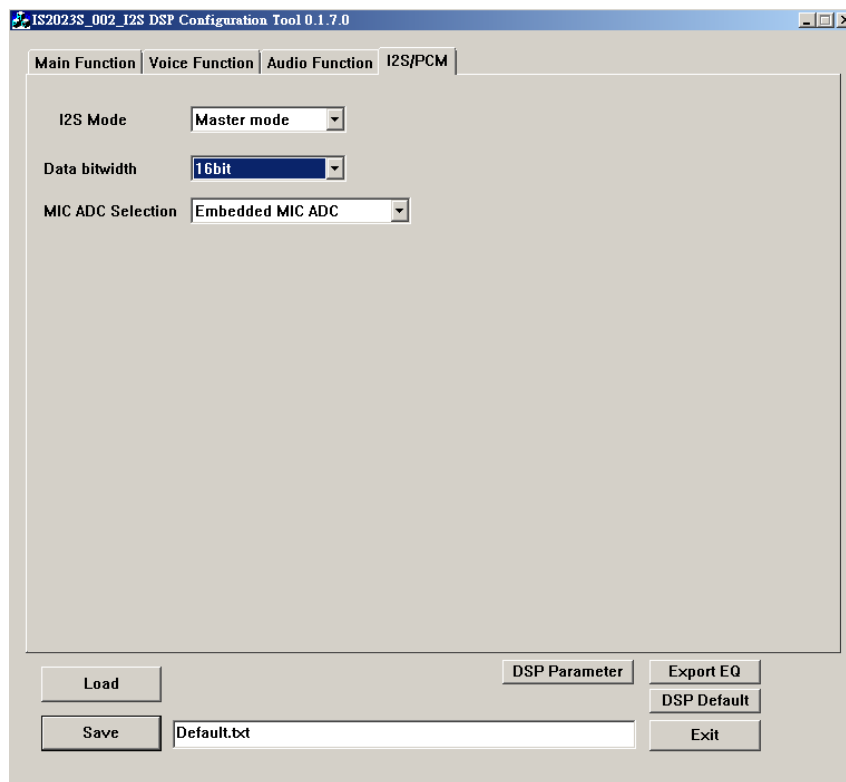

Figure 17: I2S parameter tuning interface for IS2023 chip.
IS2023-002 chip can support the I2S interface for digital input/output. In this document, the hardware wiring issue is discussed but only the FW configuration is introduced. The selectable parameters are given as “I2S Mode”, “Data bitwidth” and “MIC ADC bitwidth” as shown in Figure 17.
This section introduces a guideline to fine-tune the echo cancellation performance. There are usually three requirements, which are **high MIC volume**, **echo-free** and **double-talk (DT)** performance, for the EC tuning. These three requirements contradict with each other. For example, if requiring high volume at the MIC path, echo would be amplified as well and need to tune some parameters to make echo inaudible which would result in worse DT performance. As shown in Figure 17, step 1 ~ step 5 are basically handling these whole speakerphone/carkit echo issues.